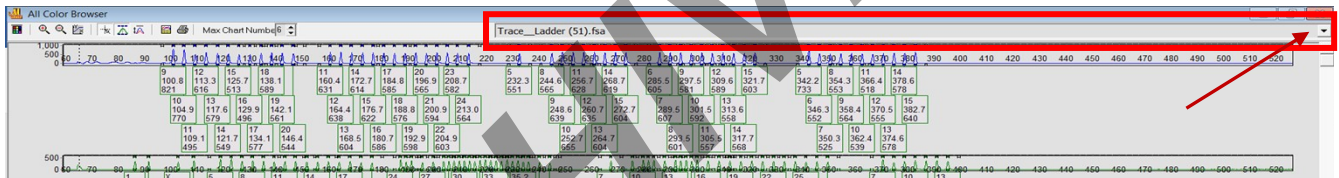

Figure 6. Toggle from sample to ladder in GeneMarker™ HID
6. Use the drop-down arrow on the upper right to toggle back and forth from sample to sample (Figure 6). Within the electropherogram, left click and drag the box from upper left to lower right to zoom in and left click and drag the box from lower right to upper left to zoom out. To scroll, hold right click and move right or left.